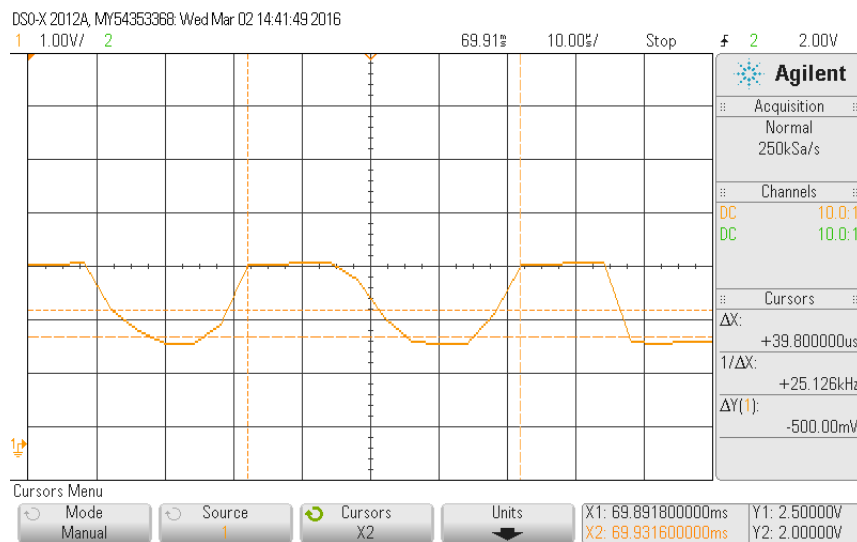

Figure 5: Read Out Time of one pixel, with clock frequency set to centre point
Now the clock frequency control is again set to the center point and the read-out time of one pixel is measured using the oscilloscope. This results in a read-out time of 39.8 usec for one pixel, see Fig. 5 and a read out time of 37.522 msec (6).